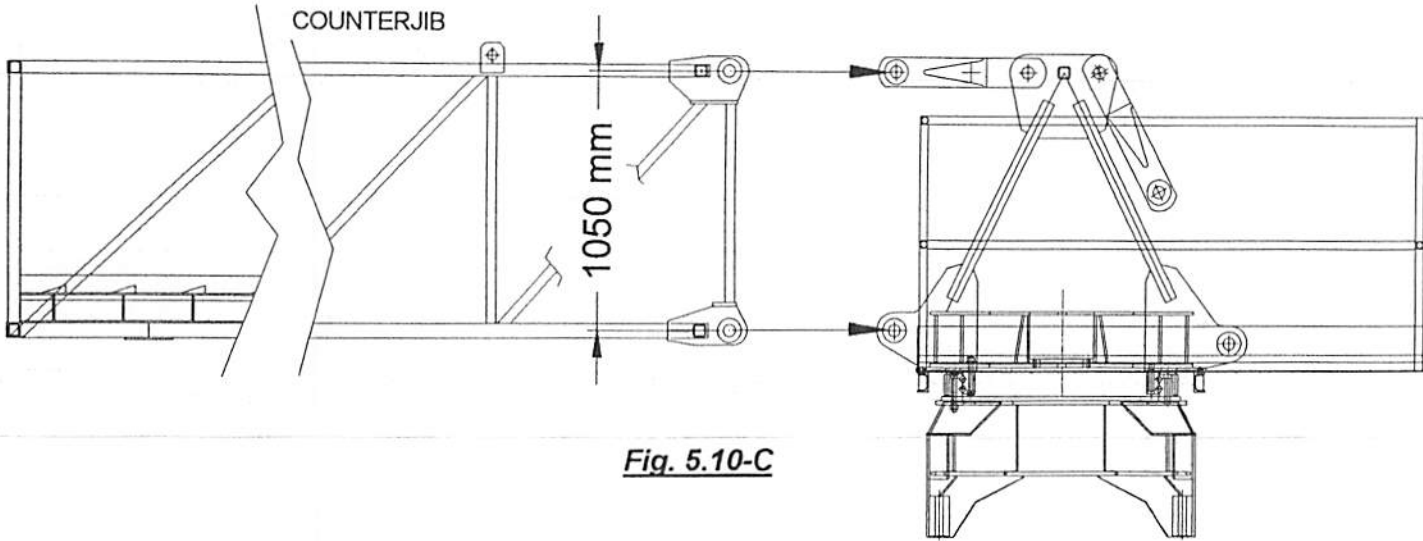
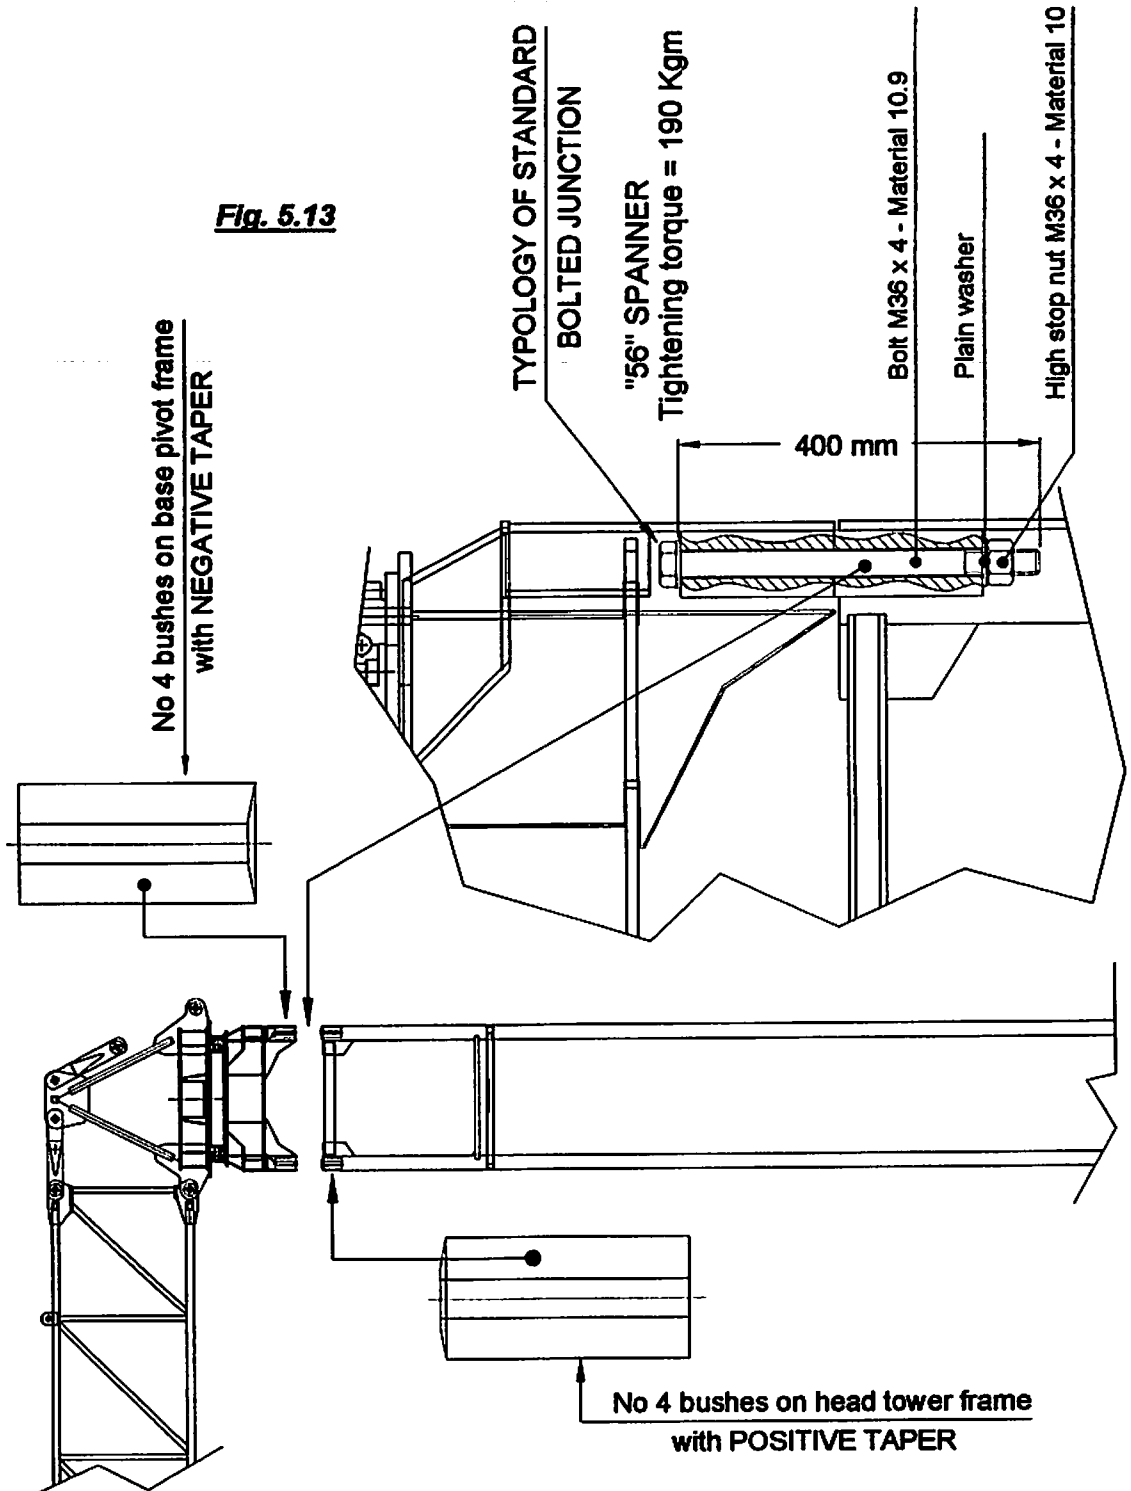

Fig. 5.10-C
Fig. 5.13
- Insert the *two bolts M36*, shown in Fig. 5.13, into the bushes welded on the fixed pivot on the side of the landing, as indicated in Fig. 5.10-A.
- Link the landing to the turning pivot at the *four points* shown in Fig. 5.10-A by means of the proper *bolts M16* delivered with the crane.
During this phase you have to reassemble the frame: link the part removed to the counterjib by means of the screws M 12 and M14 supplied with the crane, as suggested in *Fig. 5.10-B*.
- Note!** The side of the pivot you have to link to the counterjib is the one having distance between centres **1050 mm**, as shown in **Fig. 5.10-C**.
This link type is shown in **Fig. 5.13**